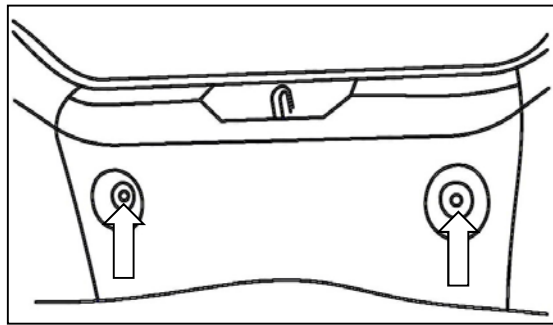

Figure 2
2. Remove the load floor cover from the cargo area. Carefully pry the 2 (two) plastic trim clips out of the rear trim sill. **See Figure 2.** Using the pry tool, pull the rear trim up to disengage 4 clips (2 per side), then lift and remove the trim.